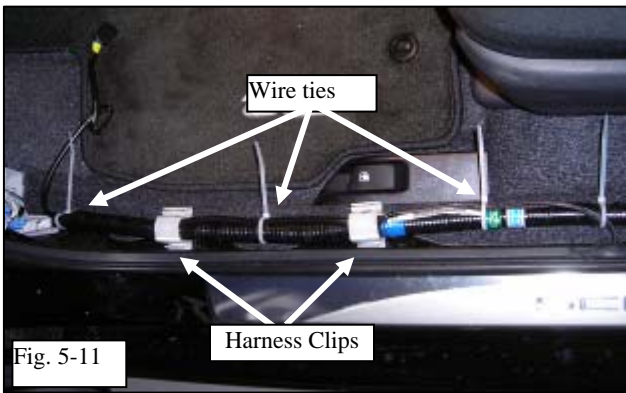

Fig. 5-11
(1) Make sure the harness goes through the two harness clips.
(2) The harness clip can be opened by pulling outward on the retaining tab located to the right of the clip.
(3) Secure the harness to the OE harness with three (3) wire ties as shown. (Fig. 5-11)